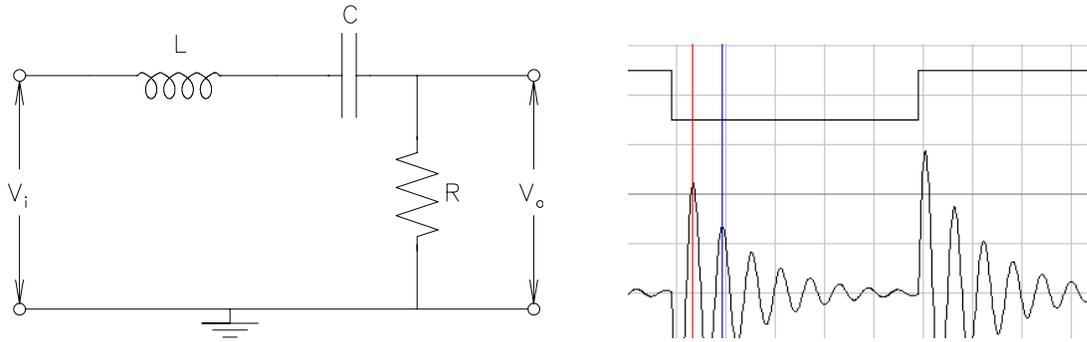

Figure 4.2: Transients in an  $RCL$  circuit; measuring the ringing frequency and decay envelope.
- Setup your circuit as shown in Figure 4.2. Use an inductor  $L = 2.2 \text{ mH}$ ,  $C = 0.01 \text{ } \mu\text{F}$  and  $R = 100 \text{ } \Omega$ .